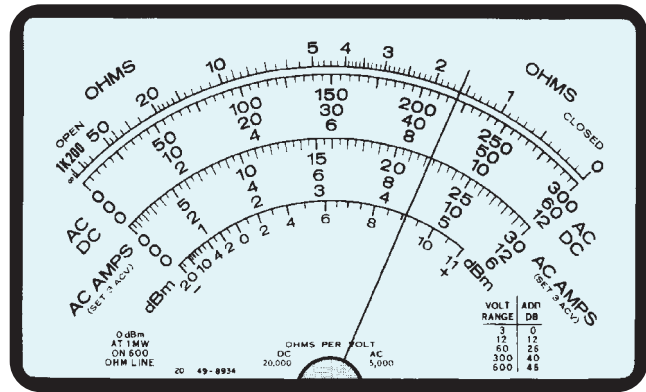

FIGURE 8-10 A typical multimeter. From *Herman and Sparkman, Electricity and Controls for HVAC, 2nd ed., copyright 1991 by Delmar Publishers Inc.*
Learning to read the scale of a multimeter is similar to learning to read a speedometer or fuel gauge. The meter scale shown in **Figure 8-10** has several scales used to measure different quantities and values. The top of the scale measures resistance, or ohms. Notice that the scale begins on the left at infinity and ends at zero on the right. Ohmmeters will be covered later in this chapter. The second scale is labeled AC-DC and is used to measure voltage. Notice that this scale has three different full scale values. The top scale is 0–300, the second scale is 0–60, and the third scale is 0–12. The scale used is determined by the setting of the range control switch. The third set of scales is labeled AC amps. This scale is used with a clamp-on ammeter attachment that can be used with some meters. The last scale is labeled dBm, which is used to measure decibels.
- 3 *Read the meter.* The last step is to determine what the meter is indicating. It may be necessary to determine the value of the hash marks on the meter face for the range for which the selector switch is set. If the meter in **Figure 8-10** is set for 300 V full scale, each hash mark has a value of 5 V. If the full scale value of the meter is 60 volts, however, each hash mark has a value of 1 V.